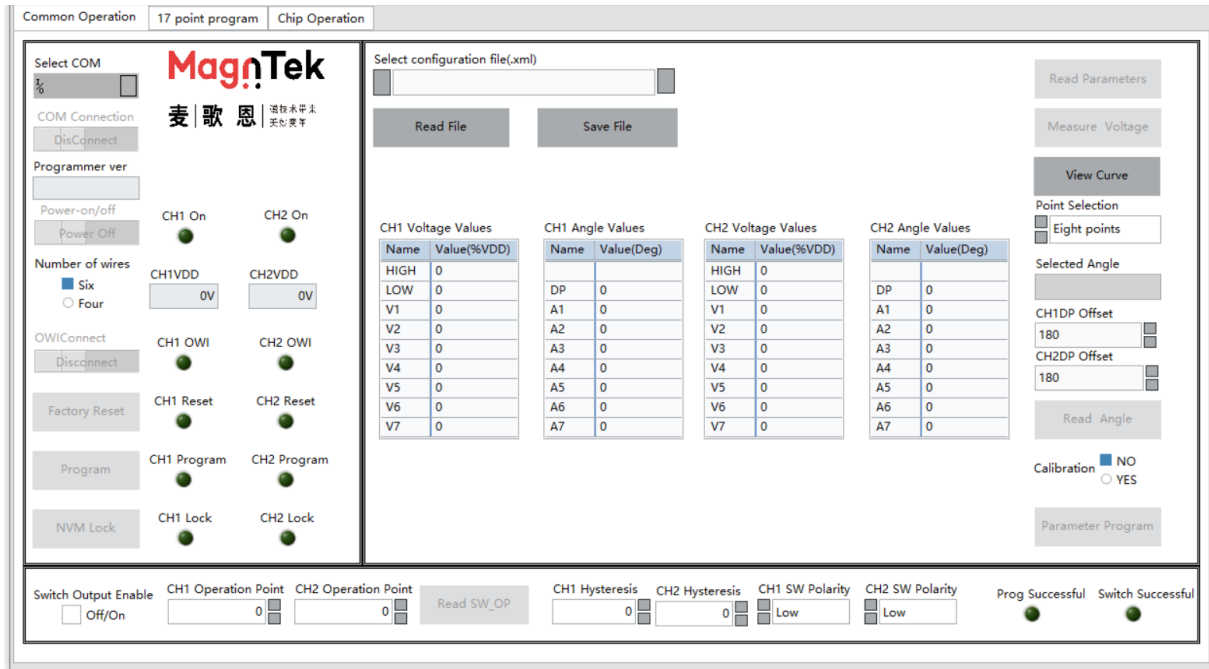

Figure 4.1.2 Programming interface of two analog output model chips
- Figure 4.1.2 represents the programming interface for dual-chip analog output in the software. This interface includes the conventional programming interface for analog output and the chip information reading interface.